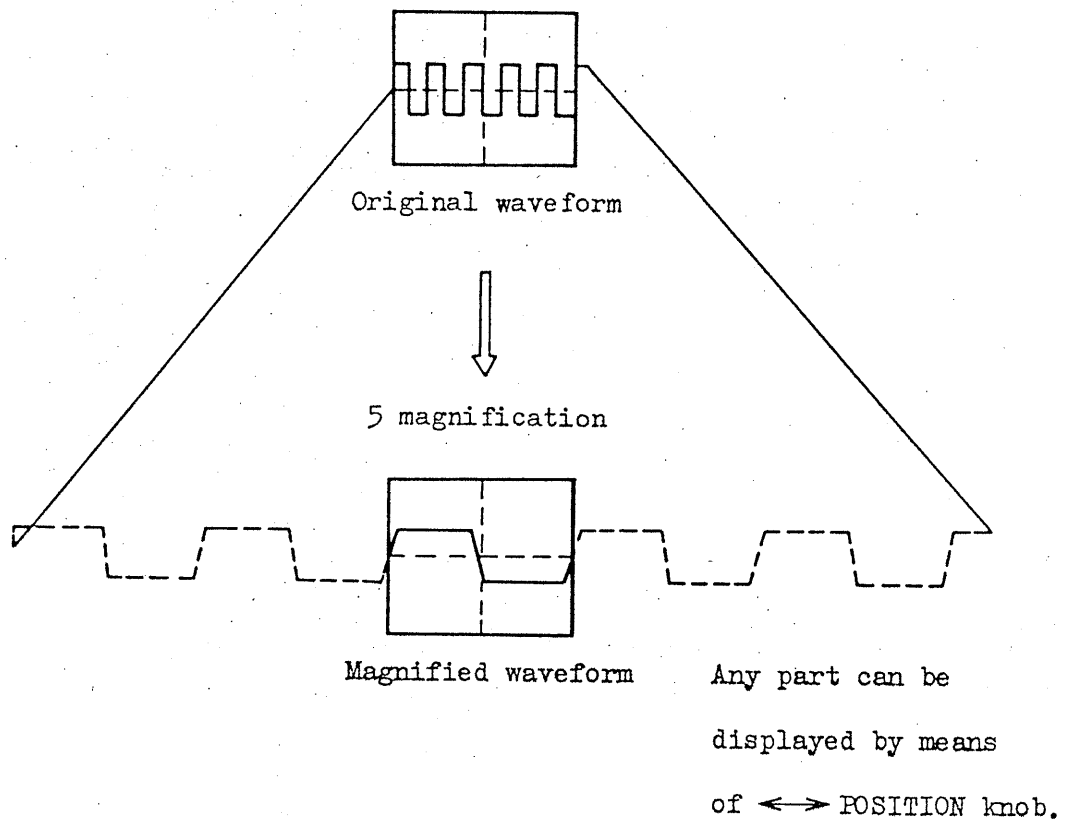

Fig. 8
When a part of the input signal waveform is required to be enlarged for observation of details, a faster sweep speed may be used. However, if the part to be enlarged is apart from the start of the sweep, the part may run out of the screen. In such a case, by pulling out the HORIZONTAL POSITION knob ③⑩, the displayed waveform can be magnified by 5 times to right and left from the center of the screen as shown in Fig. 8.